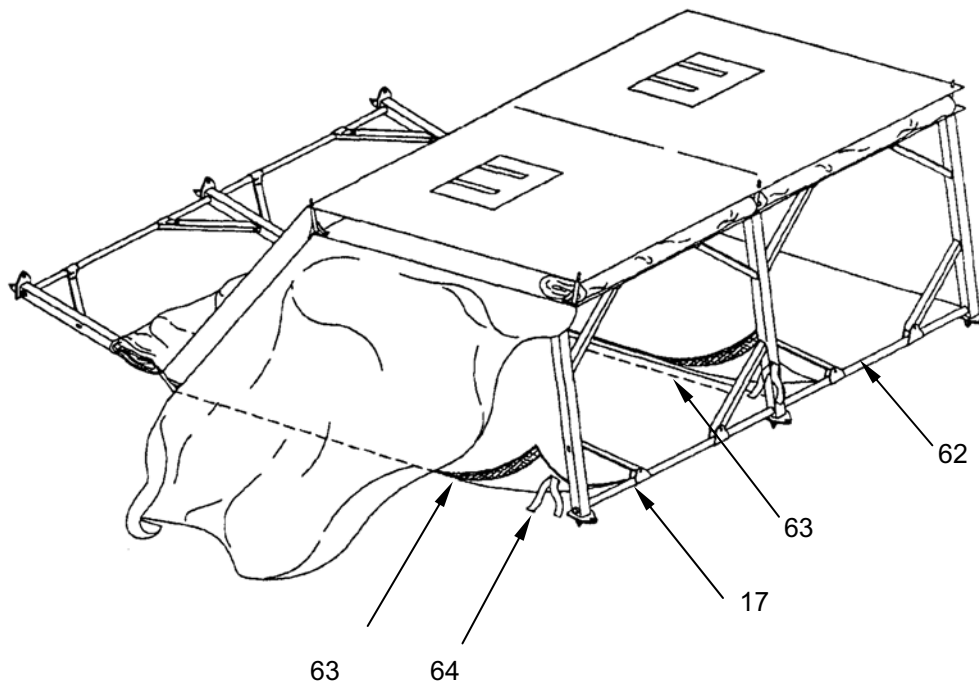

Figure 30. Single Ply Floor.
1. Unroll floor sections (**Figure 30, Item 62**) and install black side down. Place all floor sections alternating hook and pile fasteners (**Figure 30, Items 63**).
2. Secure tie tapes (**Figure 30, Item 64**) on narrow edge of floor to base purlins (**Figure 30, Item 17**) on raised side of tent.